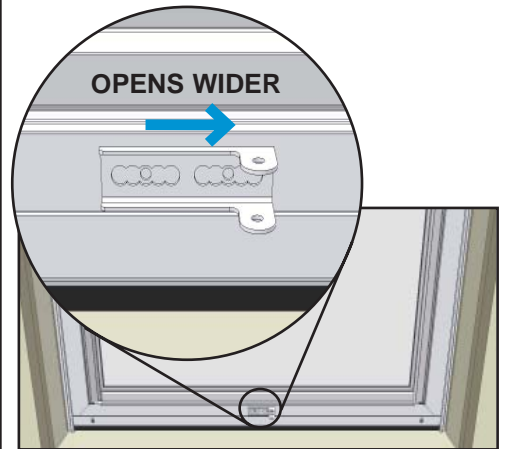

Figure 36
4. Move the door bracket closer to the hinge rail to allow the door to open wider. (Figure 36)